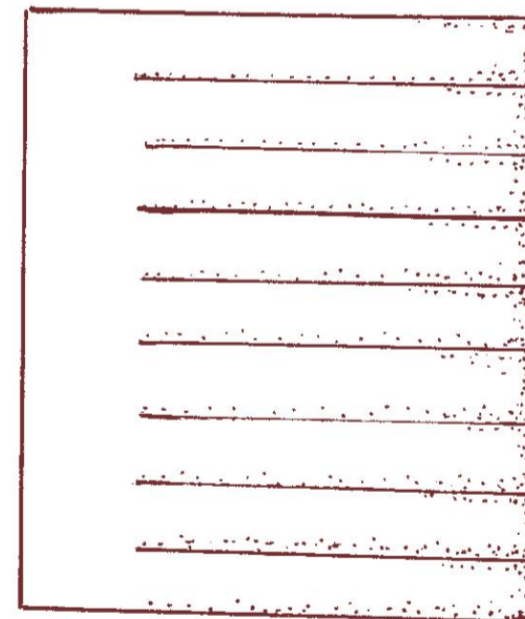

Figure 1
**5** Cut into one side of the copper foil piece, creating strips approximately ⅛ to ⅓ inches (0.3 to 0.16 cm) in width. Leave the strips connected on the other side (see figure 1).